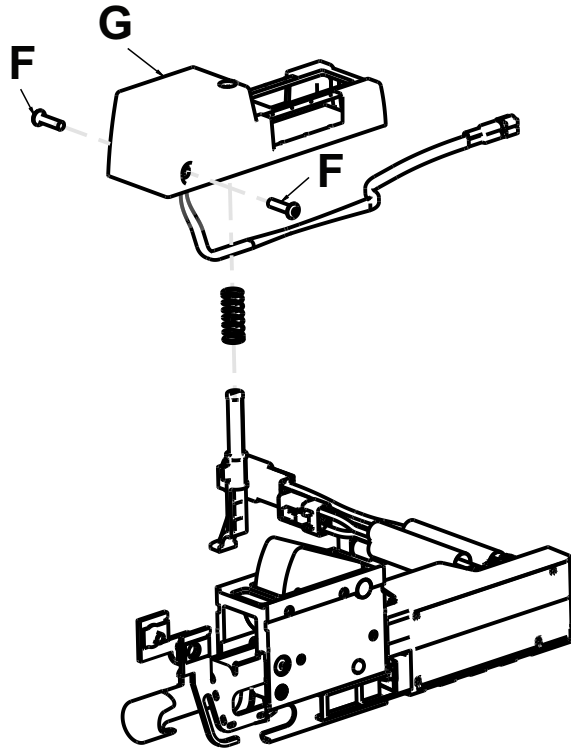

Figure 51 – Remove the anchor housing assembly
12. Using a 1/8" hex wrench, remove the two button head cap screws (F) that secure the anchor housing assembly head end to the anchor pawl assembly. Remove and discard the anchor housing assembly (G) (Figure 51). Save the screws.